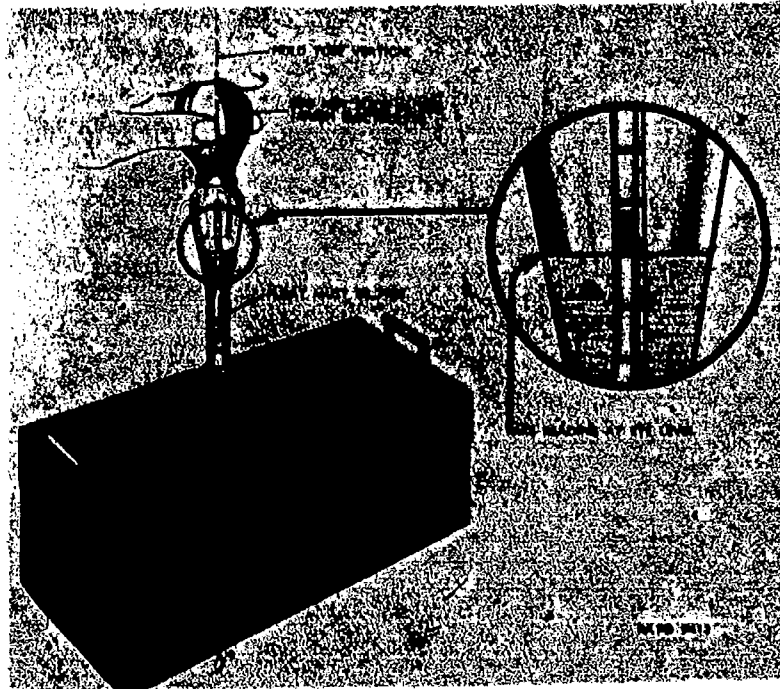

Fig 2-18. Taking specific gravity reading of a battery with hydrometer.
1. Specific gravity (fig 2-18).